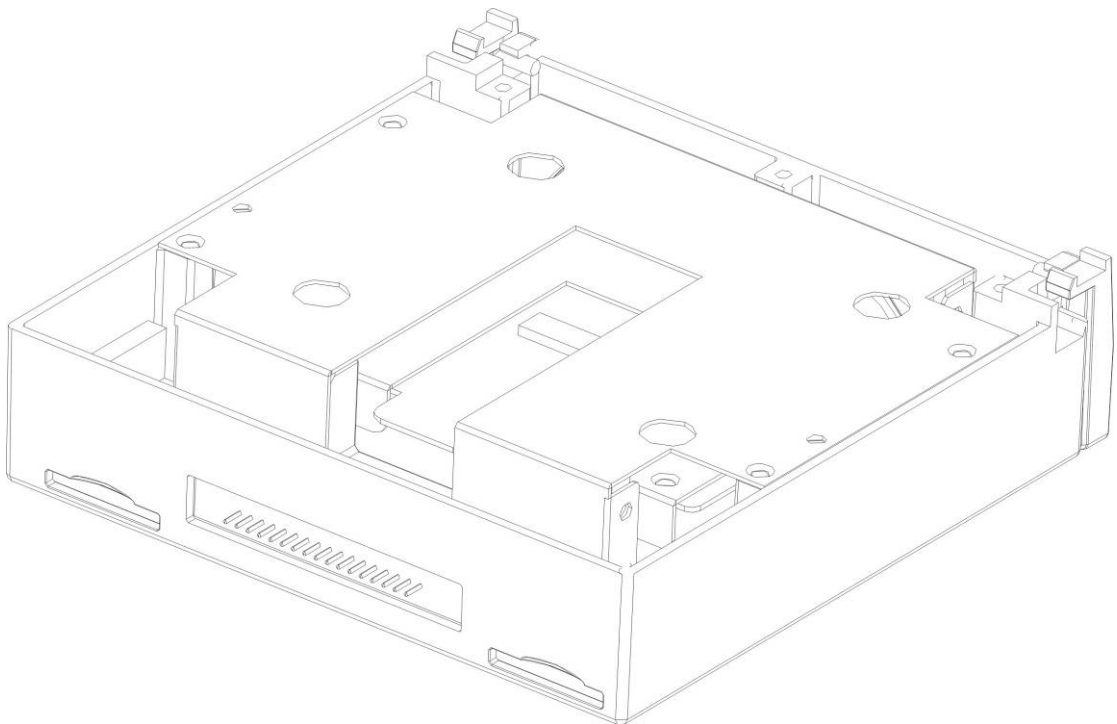

Figure 3-5
5) Install the bracket back to the HDD box and then secure the four bolts. See Figure 3-5.